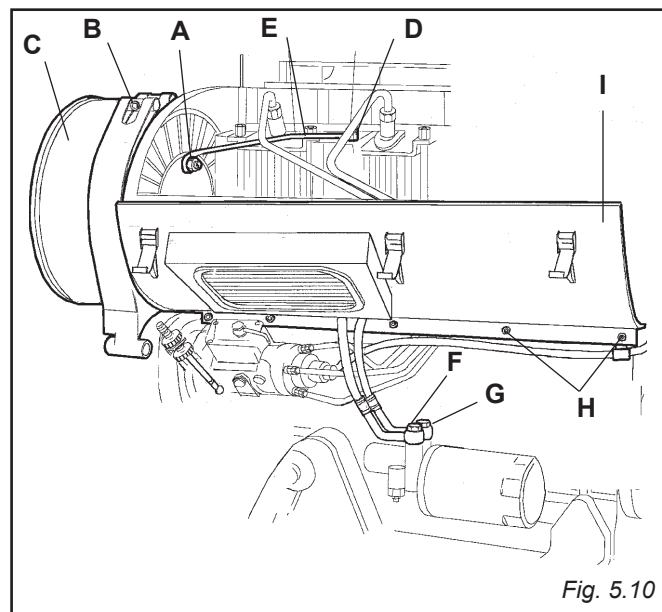

Fig. 5.10
5.12 SHROUD COVER (FIG. 5.10)
5.13 FAN (FIG. 5.10)
5.14 AIR SHROUD (FIG. 5.10)